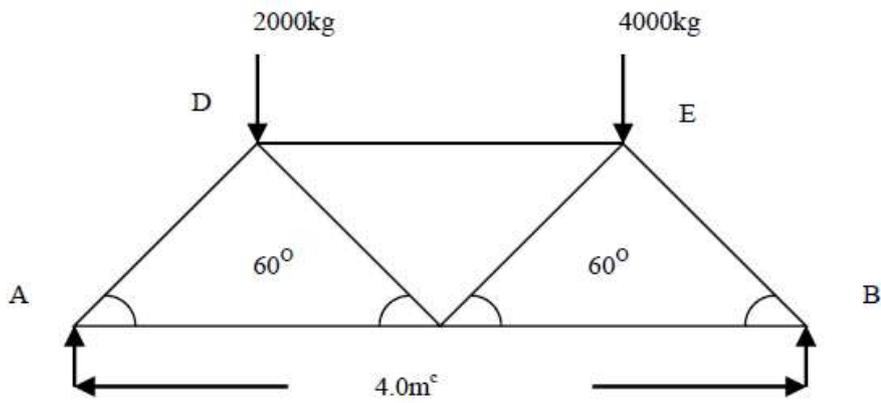

Figure.2
16. A pin jointed Warren truss of 4.0 m span is freely supported at the ends and it carries 16 CO5 [K3] loads of 2000 kg and 4000 kg at the upper joint, as shown in figure.2. Calculate the forces in all the members, using method of joints